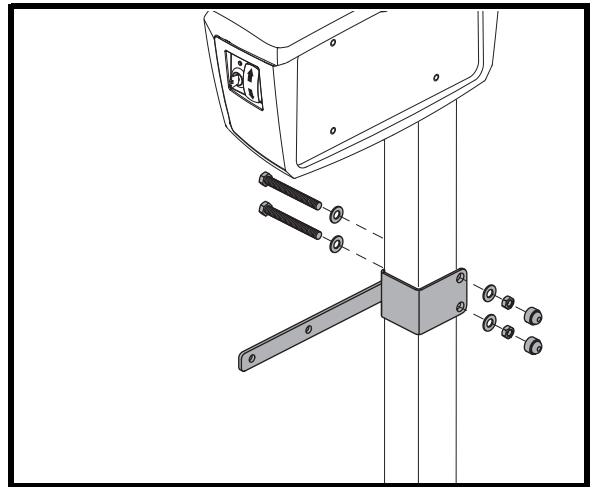

Figure 9. Accessory Bracket
2. Secure with supplied hardware. **See figure 9.**